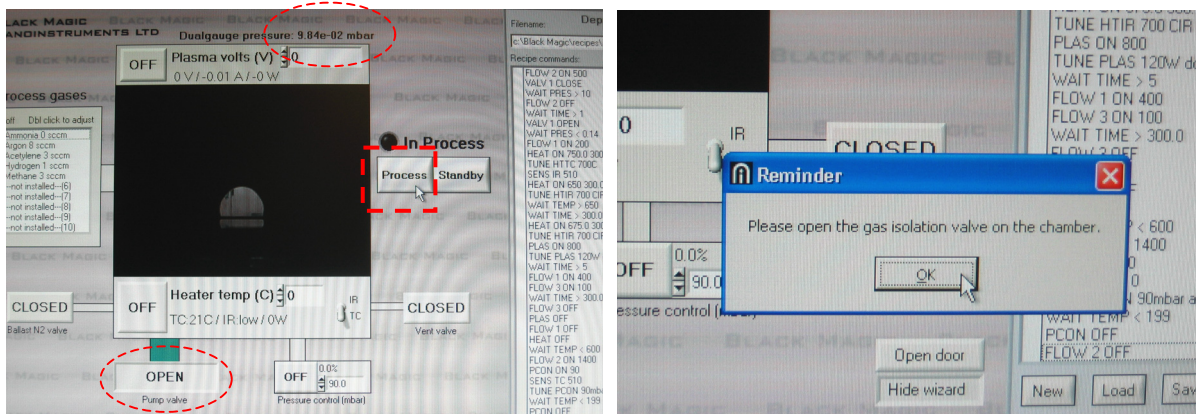
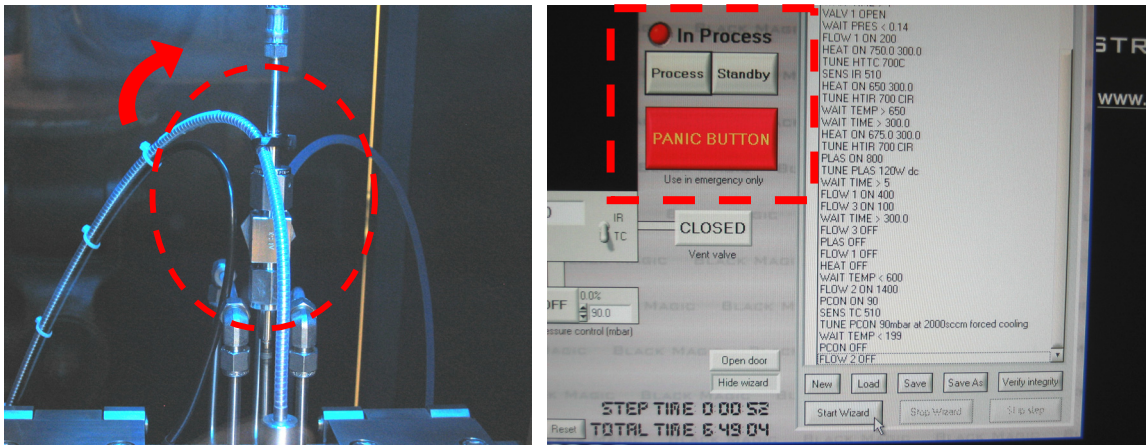

Figure 16. Left click Process button, (left), and request of opening the gas isolation valve (right)
Figure 17. Open gas isolation valve (left), and *In Process* status (right)
23- Once the recipe is verified, you are ready to go. Left click the *Process* button (Figure 16, left). For the system to go into Process mode:
- 24- A Reminder Window will appear, asking you to open the gas isolation valve (Figure 16, right). To open the gas isolation valve, first open the chamber enclosure door. Next, open the valve on top of the reactor chamber (Figure 17, left). Finally, close the enclosure door. THEN, left click OK on the Reminder Window. The indicator for the *In Process* status should turn red, and the screen should also include the *Panic Button* (Figure 17, right).